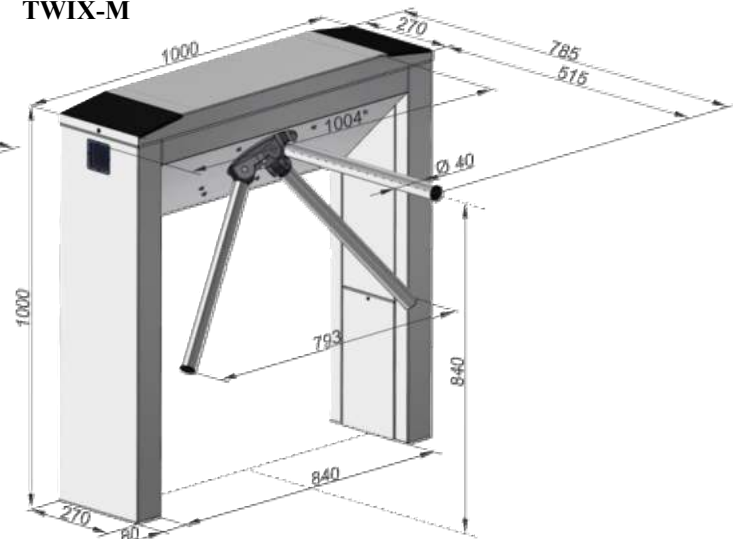

Fig. 3 - Tripod turnstile dimensions
1.3.3 The turnstile design, overall and installation dimensions (see Fig.3)